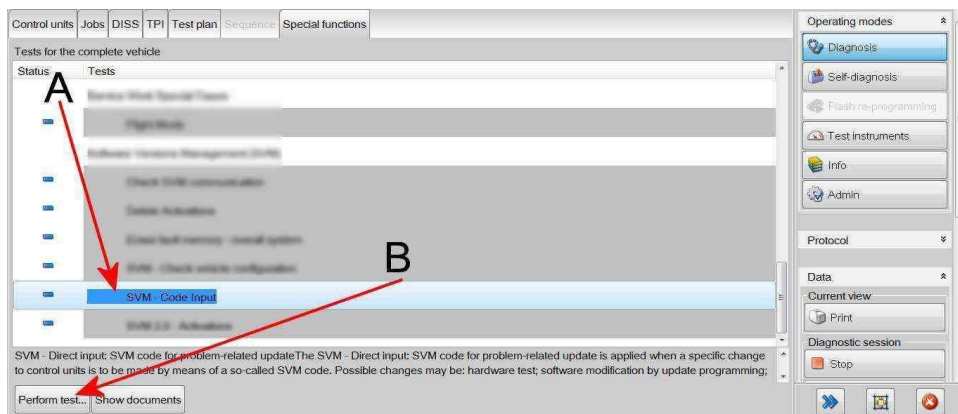

Figure1
- Referring to Figure 1 - Within the Special functions tab - Select SVM Code input (A) - then select Perform test (B)
- Within the Special functions tab select SVM - Code Input then select Perform test (Refer back to Figure 1)